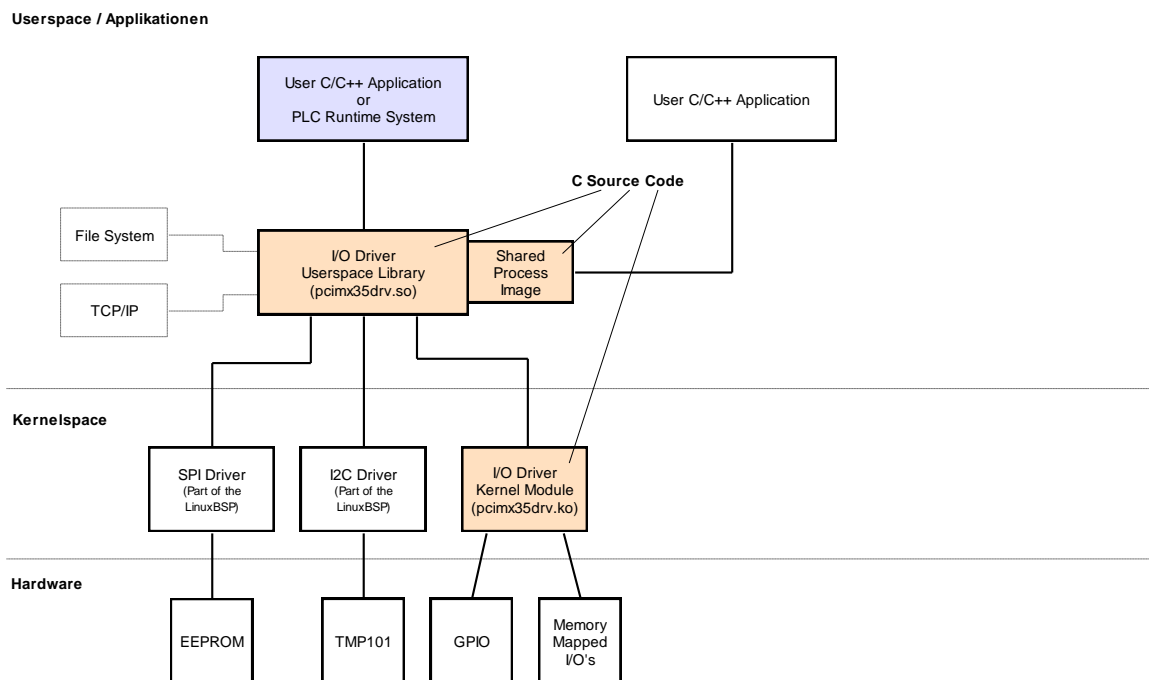

Figure 63: Overview of the Driver Development Kit for the ECUcore-iMX35
Figure 63 provides an overview of the DDK structure and its components. The DDK contains amongst others the source code of the Linux kernel driver (*pcimx35drv.ko*) and the Linux user library (*pcimx35drv.so*).
1. Source code for the Linux kernel driver (*pcimx35drv.ko*, see Figure 63); includes all files necessary to regenerate kernel drivers (C and H files, Make file etc.)
2. Source code for the Linux user library (*pcimx35drv.so*, see Figure 63); contains all files (incl. implementation of Shared Process Image) necessary to regenerate a user library (C and H files, Make file etc.)